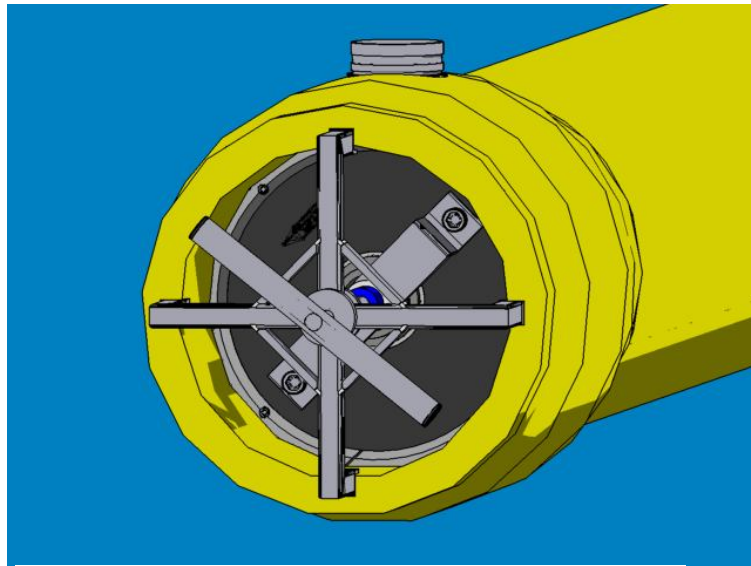

Figure 1: Puller for 16" head assembly
2.01.02.03. – Tight the Puller's legs to the vessels wall as shown in *figure 1*, for supporting the Puller to the vessel.
2.01.02.04. – Connect the profile by placing the handle's holes concentric to the base plate's holes and screw in the bolts (see *figure 1*).